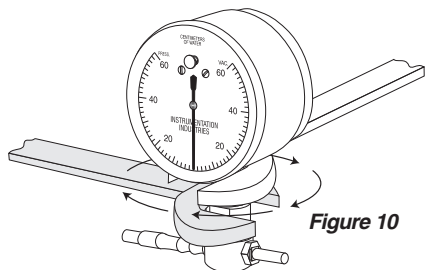

Figure 10
4. To finish tightening, turn top wrench clockwise while holding bottom wrench steady. (Figure 10)